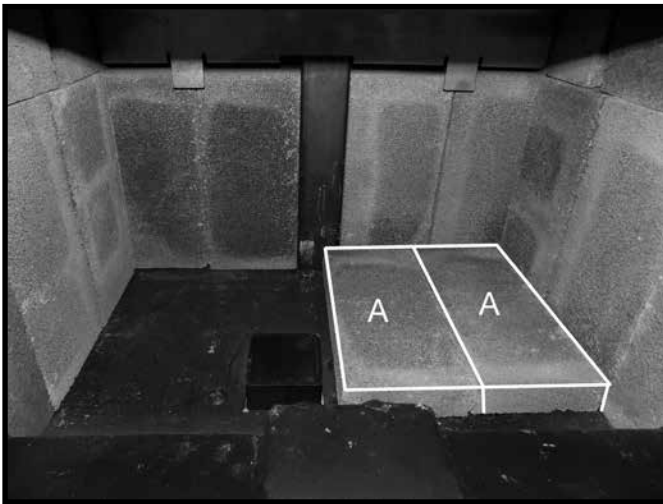

Figure 13. First two floor bricks in place.
- Place two "A" firebricks on the firebox floor as shown in Figure 13. on page 13